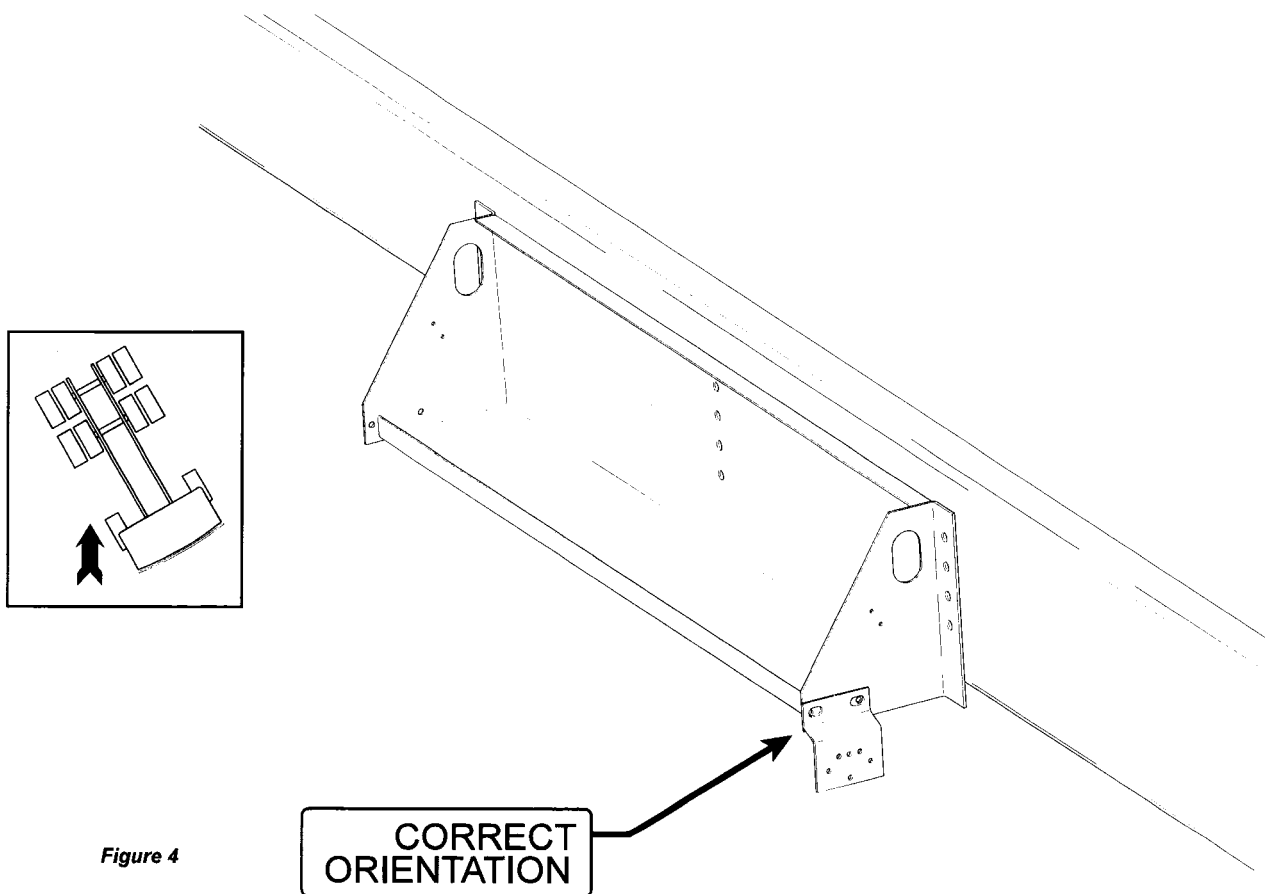

Figure 4
Step 23: Replace the disconnect switch bracket as shown in *Figure 4*.
Step 25: Use a 9/16" socket and a torque wrench to tighten the bolt and nut used to mount the disconnect switch bracket shown in *Figure 4* to a torque of exactly 65 N-m (48 ft-lb).